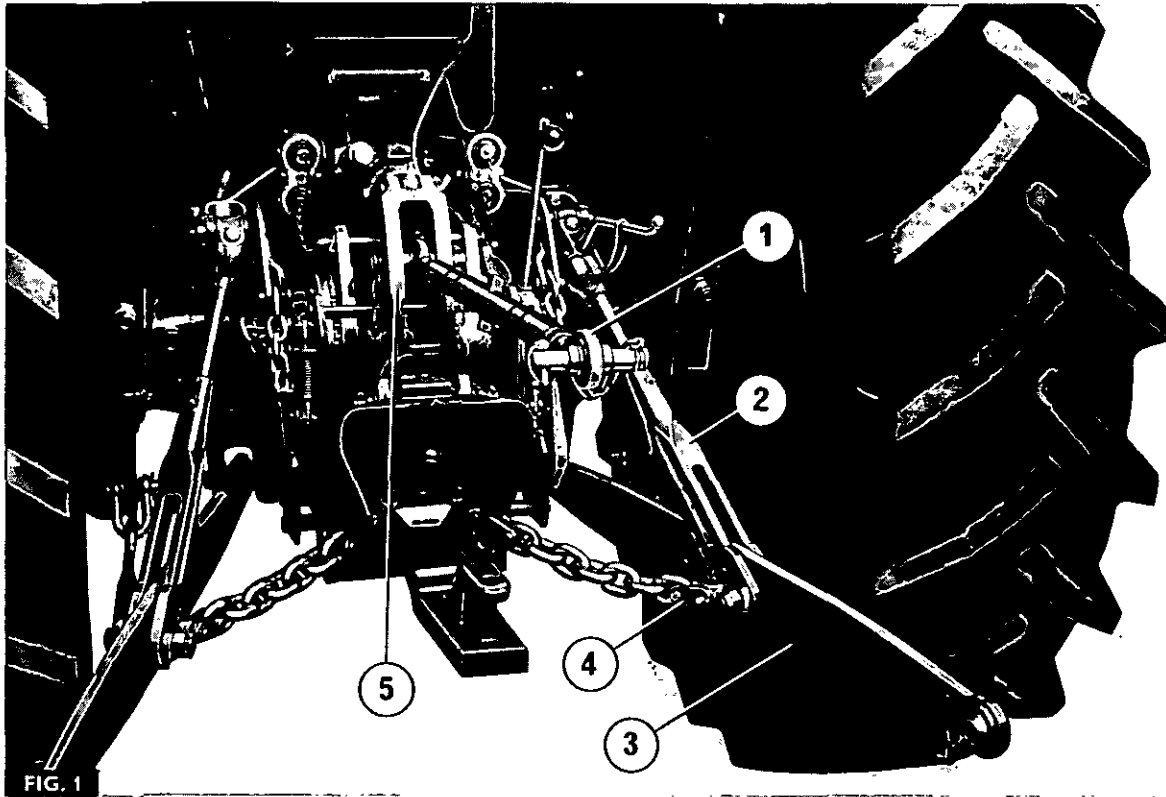

FIG. 1
Fig 1. The three point linkage controls the movements of the mounted and semi-mounted implements. The linkage comprises five main components:— top link (1), lower links (3), lift rods (2), check chains (4) and control beam (5).